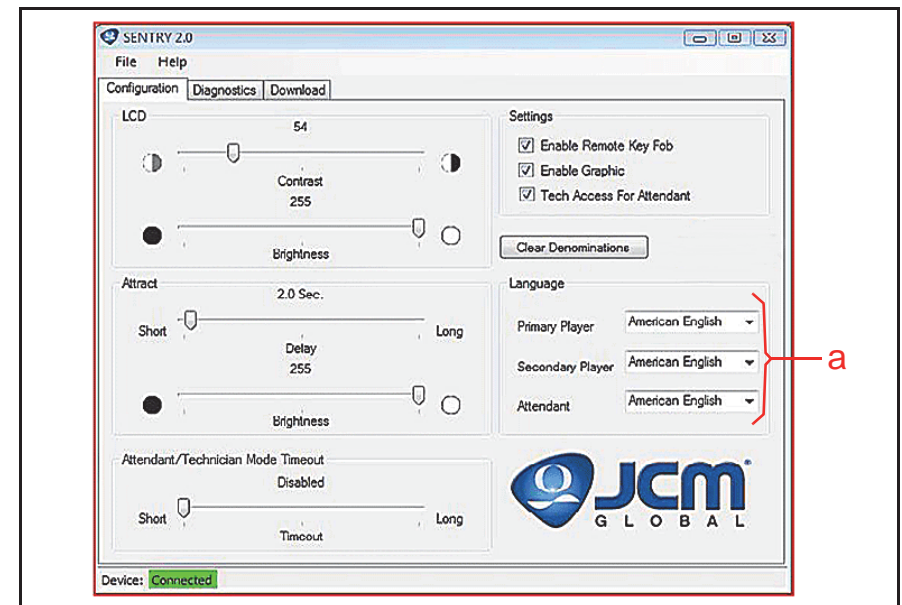

Figure 6 SENTRY 2.0 Display Language Selection Configuration Screen
1. To specify a single language display on the Sentry 2.0 Bezel, set the Primary Player, Secondary Player and Attendant Language settings to the same language option, such as American English (Figure 6 a).